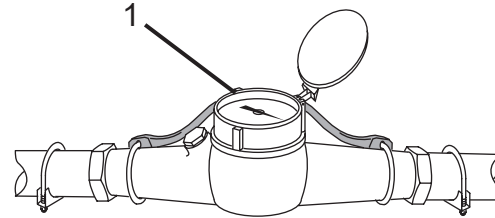

Figure 129
2. Reset the display by turning the collar (Figure 129, Item 1) counterclockwise until the pointer is aligned with "0".